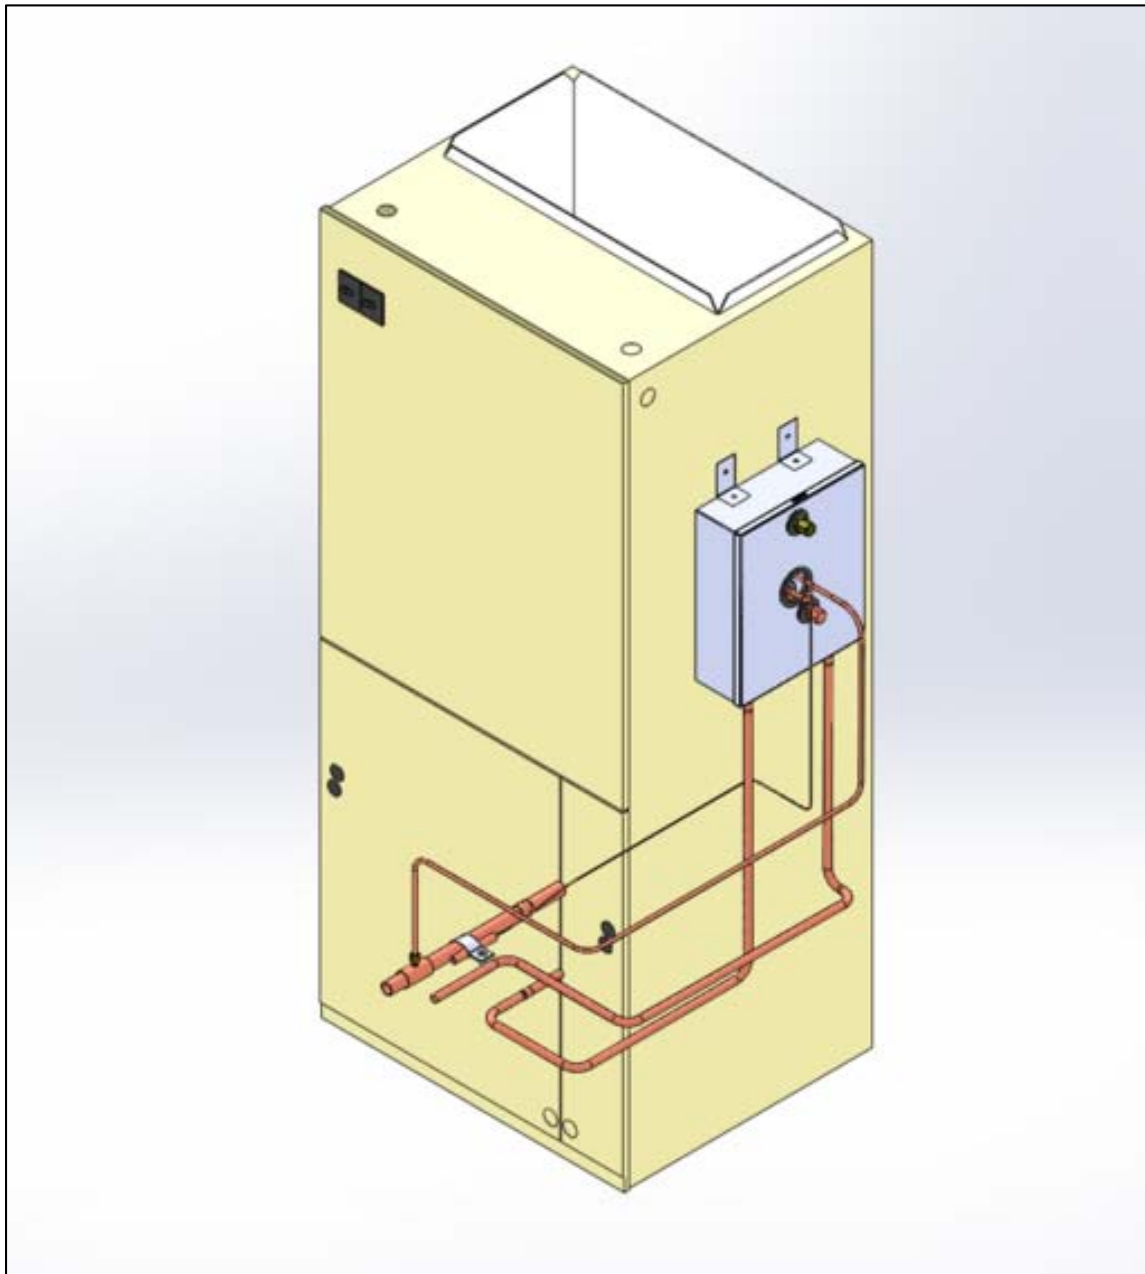
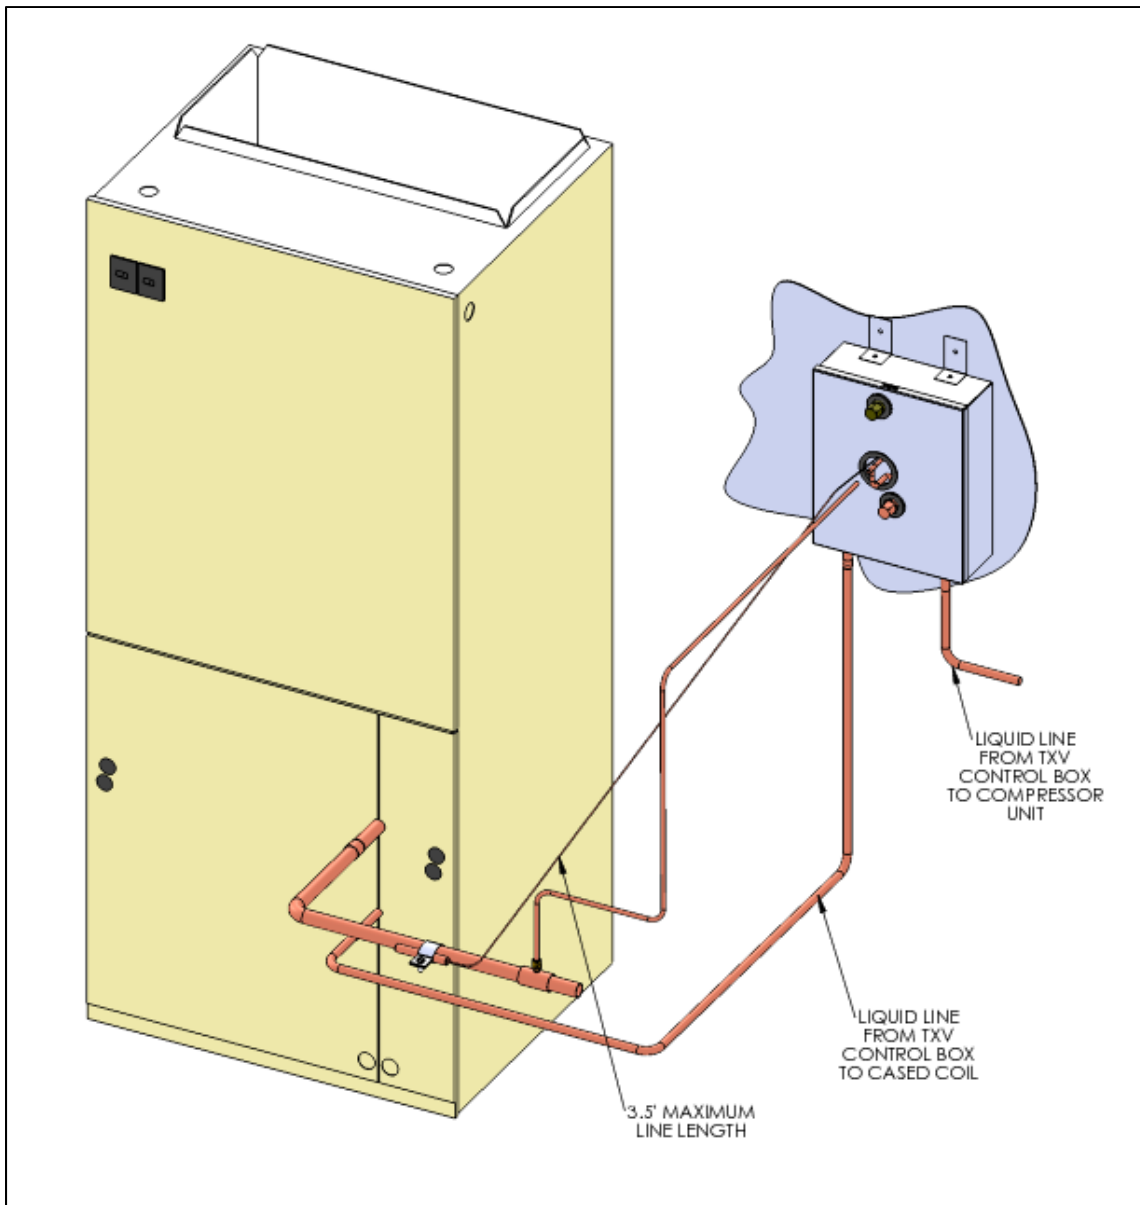

Figure 8a. TXV Control Installed on Vertical (upflow/downflow) Air Handler
Figure 8b. TXV Control installed next to Vertical (upflow/downflow) Air Handler
The TXV control box is field positioned external to the vertical (upflow or downflow) air handler and fastened to (1) the air handler as shown in Figure 8a, or (2) on a solid mounting surface immediately adjacent to the air handler as shown in Figure 8b. Locate the TXV control box to allow a service access of at least 12 inches in front of the box to adjust the TXV control.